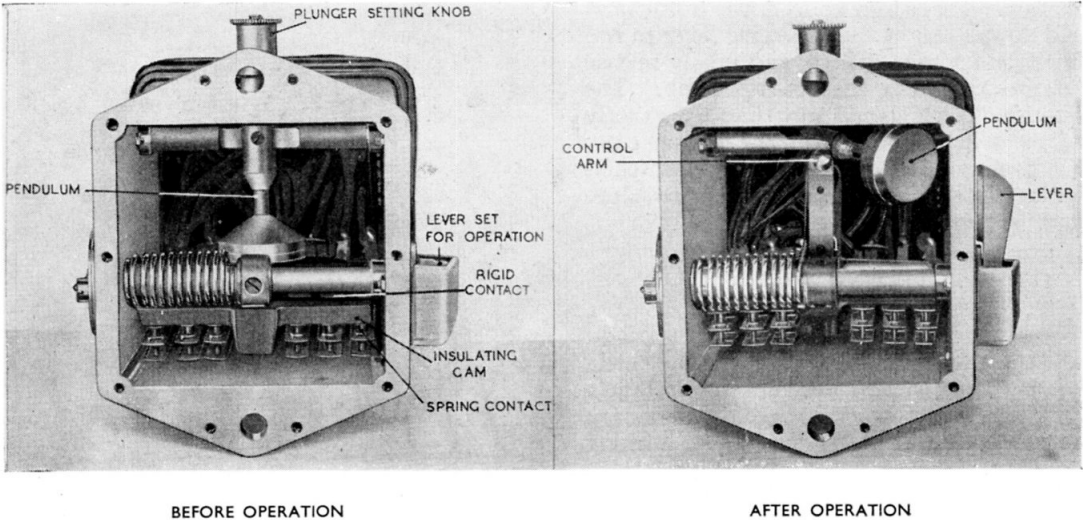

Fig. 2. Interior view of switch
Any shock or impact over 6g will jolt the pendulum away from the control arm; the arm, released, springs up through an angle of 60 to 80 deg. and allows the contact points, shown in fig. 2 and 3, to complete the electrical circuit, thus switching on the associated electrical equipment.
3. The mechanism of the switch contact assembly is shown in the open position in the left-hand view of fig. 2 and 3. It consists of a rigid member and a leaf-spring, each provided with contact points. The leaf-spring contact is normally held away from contact with the rigid member by the insulating cam which is attached to the control arm holding the pendulum in place. An impact sufficient to jerk the pendulum free of the control arm releases the arm, which in turn relieves the pressure of the cam, and the leaf-spring springs back so that the contacts meet and complete the circuit. The right-hand views of fig. 2 and 3 show the inertia switch after operation.